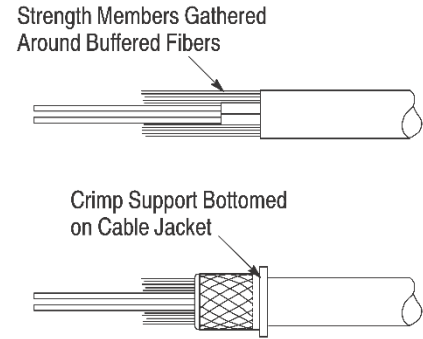

Figure 3
2. Gather the cable strength members closely around the buffered fibers, then rotate and slide the crimp support (large diameter end first) over the strength members and subunits until it bottoms. Refer to Figure 3.